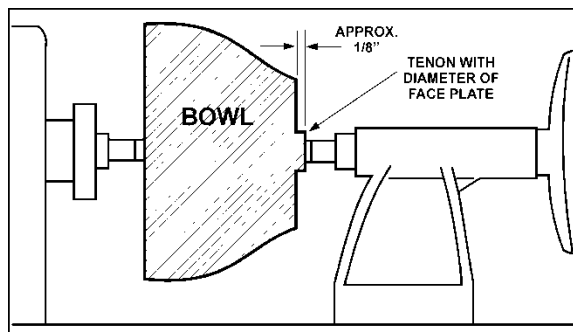

Figure 10-10
8. Turn a short tenon (about 1/8" long) the size of the hole in the faceplate. See Figure 10-10. This will allow centering the workpiece when the faceplate is attached.